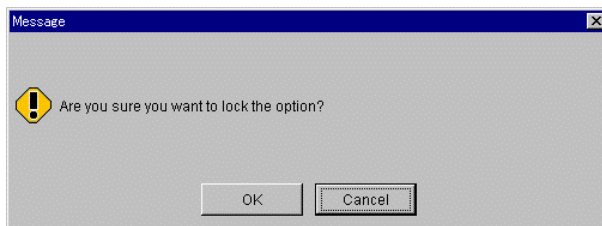

Figure 4.8 Option Lock Confirmation
6. A screen appears, requesting confirmation to lock the SNMP option (see Figure 4.8). Click the **OK** button.